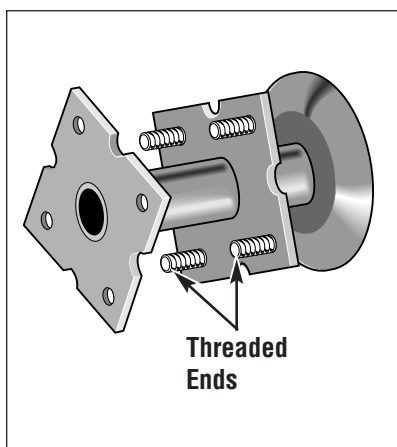

Figure 4: Insertion of bolts.
A. On all other models, place the sixteen bolts through the holes in the tine holders with the threaded ends of the bolts pointing outward toward each side of the tiller as shown below in Figure 4. (**The installation of tines on holders is described later in these instructions.**)